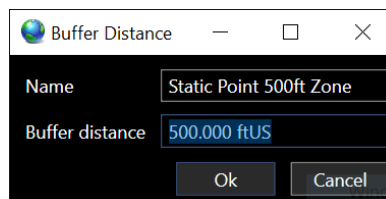

FIGURE 19-9 STATIC SINGLE POINT REGION DIALOG
- ii. In the resulting dialog (see Figure 19-9)